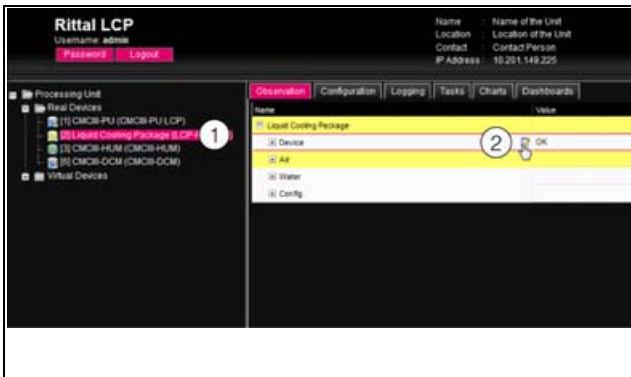

Fig. 80: Selecting multiple parameters
- Simply open the "Liquid Cooling Package" entry by clicking on the "plus" symbol in front of that entry (fig. 80, item 1).
- Position the mouse pointer at the end of the first column in the "Location" line (fig. 80, item 2).